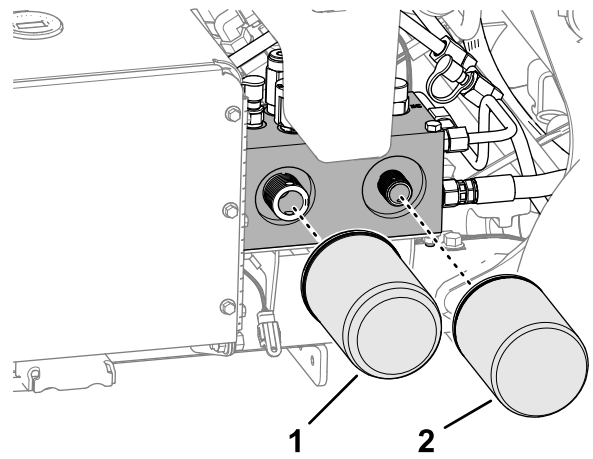

**Figure 170**
2. Place a drain pan under the filters, remove the old filters, and wipe the filter adapter gasket surface clean (Figure 170).